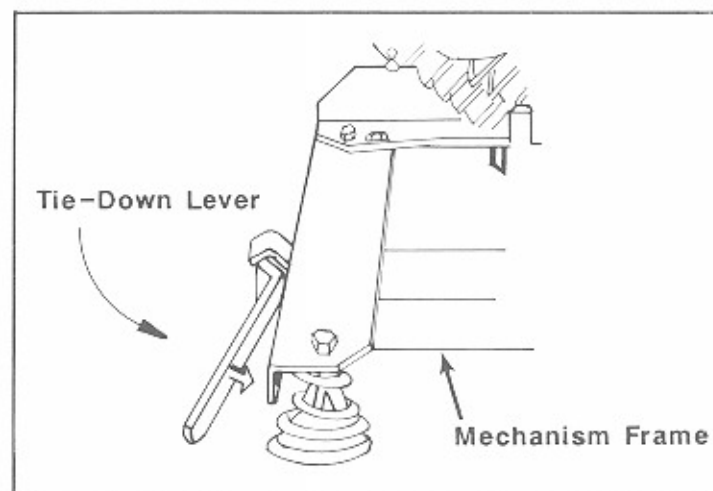

Figure 1-4. CD changer
2. Remove the shipping tape from the front ends of the mechanism tie-down levers on the side the mechanism frame (see to figure 1-4).